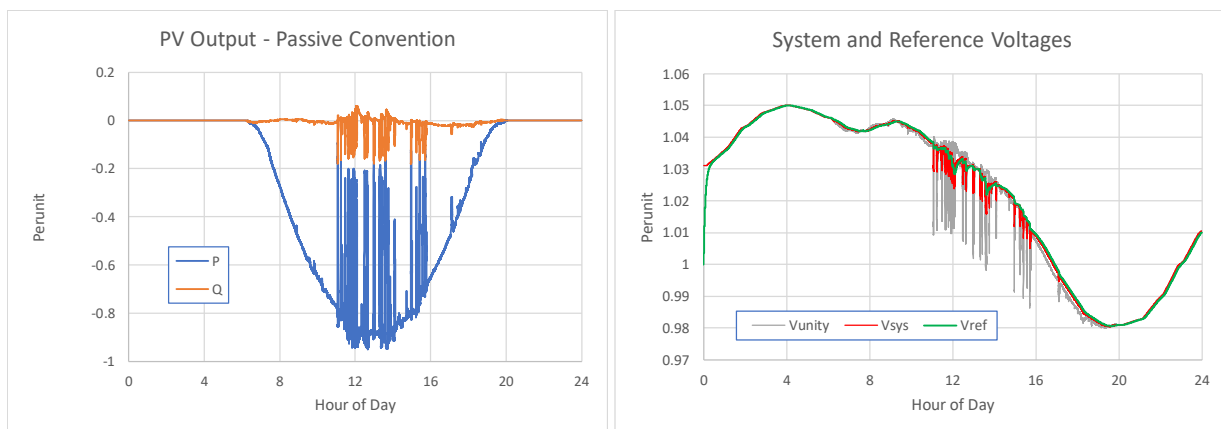

Figure 4: *ExpControl* produces near-zero net reactive power over time (left), while suppressing voltage fluctuations around the system voltage (right).
Lines 4-5 and 7-8 implement a grid voltage that varies even in the absence of solar power fluctuations. The case can be repeated with unity power factor, by commenting out lines 20-21. Figure 4 plots the *PVSystem* output and some voltages of interest. To the right,  $V_{ref}$  starts at 1 per-unit, and quickly adapts to the grid voltage,  $V_{sys}$  or  $V_{unity}$ , which is about 1.03 per-unit. The reactive power,  $Q$ , is zero during the initial adaptation of  $V_{ref}$  because there is no real power output,  $P$ , during this time, coupled with *varfollowinverter=true* in line 12. From about 1030 through 1600 hours,  $P$  fluctuates and this causes voltage fluctuation. At unity power factor, the  $V_{unity}$  fluctuations are about 3%. The  $V_{sys}$  fluctuations are mitigated to about 1% by the *ExpControl*, with approximately zero net  $Q$  integrated over the day. The  $V_{ref}$  signal follows and smooths the  $V_{sys}$  fluctuations by using *ExpControl*.
- *python plotunity.py* to visualize the effect of AVR vs. unity power factor on a cloudy day, producing Figure 4.
- *NantucketExpSteps.py* creates Figure 4 of the paper, using the OpenDSS COM interface. The network model is embedded in the Python source.